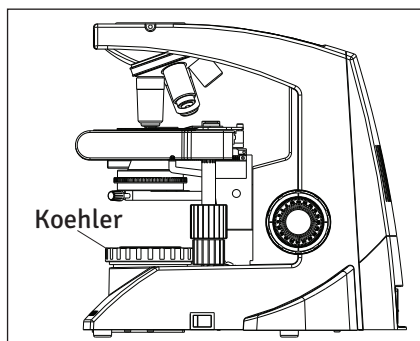

Fig. 29
6. Now optimize base diaphragm by floating it and center it (fig.29).